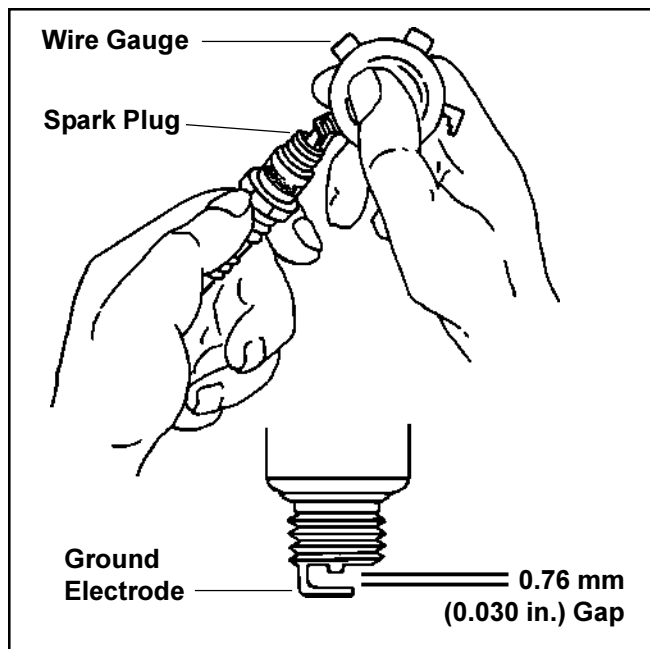

Figure 14. Servicing Spark Plug.
3. Check the gap using a wire feeler gauge. Adjust the gap to **0.76 mm (0.030 in.)** by carefully bending the ground electrode. See Figure 14.